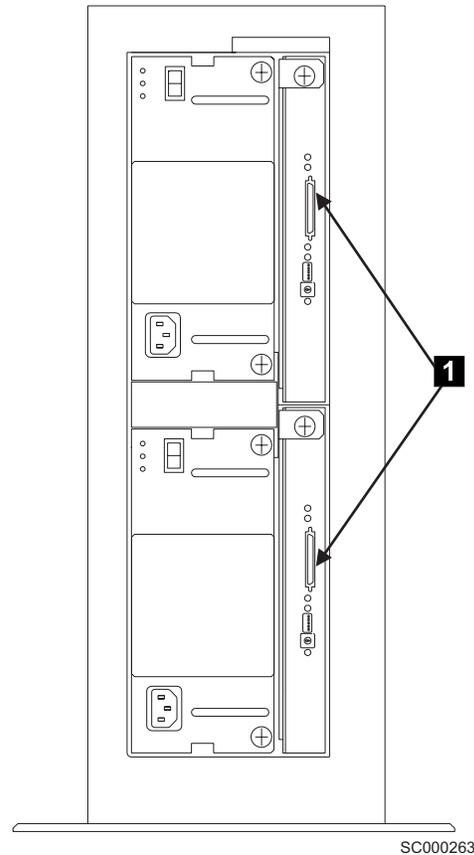

Figure 30. Connecting SCSI cables
2. Attach identification labels to the external SCSI signal cables (see the appropriate *Adapters, Devices and Cables Information* manual for details). See Figure 30.